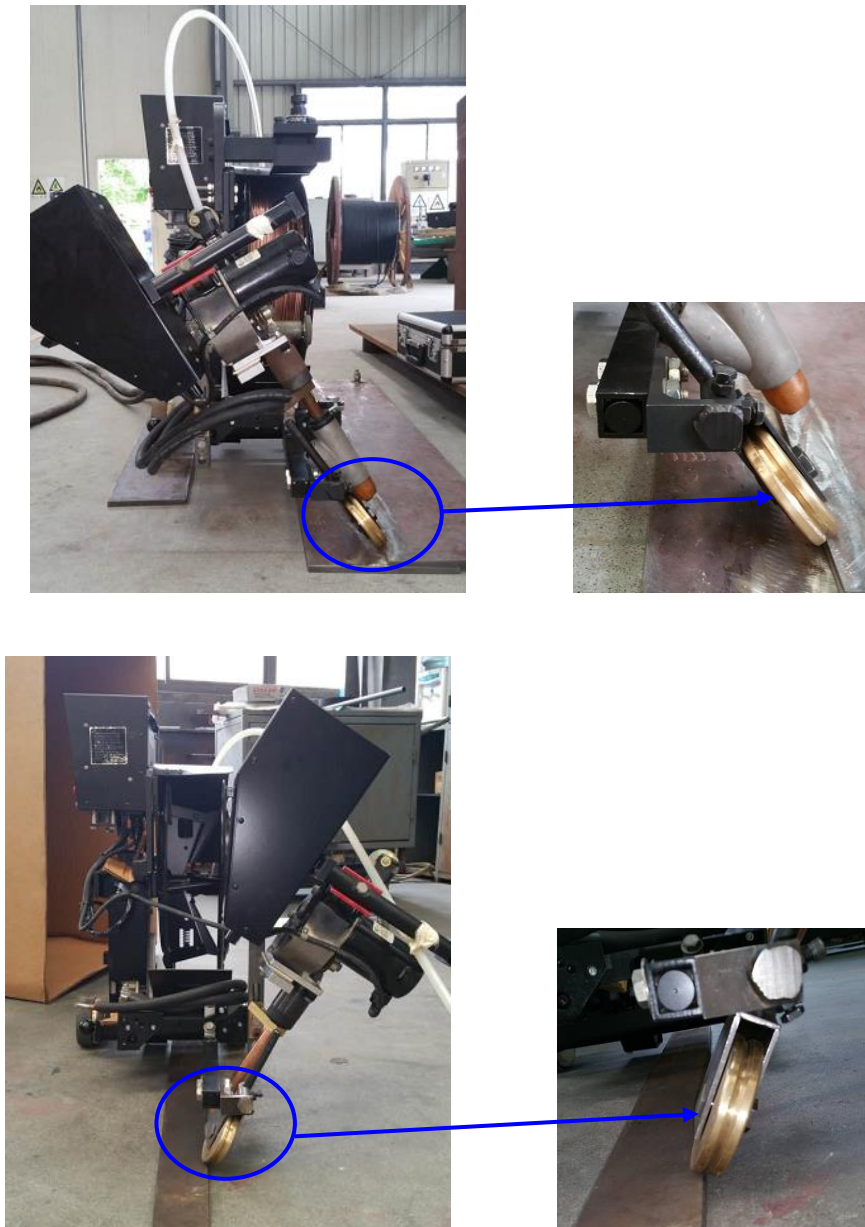

Fig. 1
- a. **Weld Seam Tracking Attachment – Idle wheel used to replace Lincoln original steering wheel (Fig.1)**